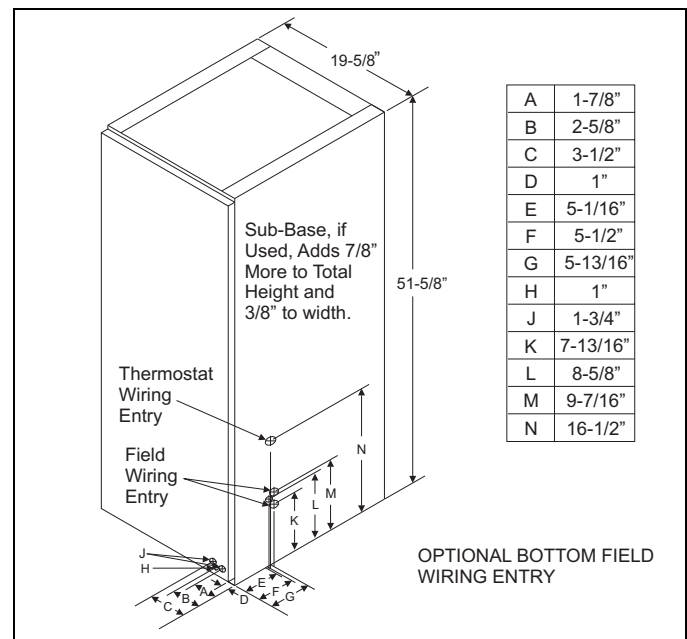

FIGURE 1: Furnace Dimensions
4. Furnace size is the same for all models. See Figure 1.